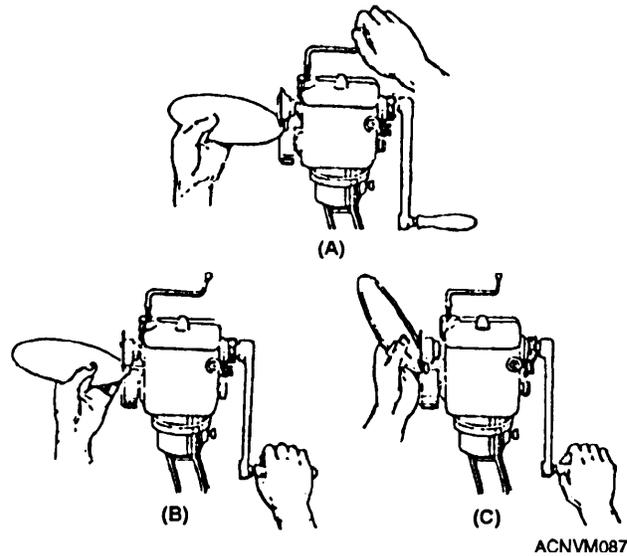

Figure 12-87.—Burring a disk.
Figure 12-87 shows the use of the burring rolls. The steps in burring a disk are as follows:
3. Place the disk in position, as shown in figure 12-87, and move the top roll down until it grips the stock and creases it slightly.